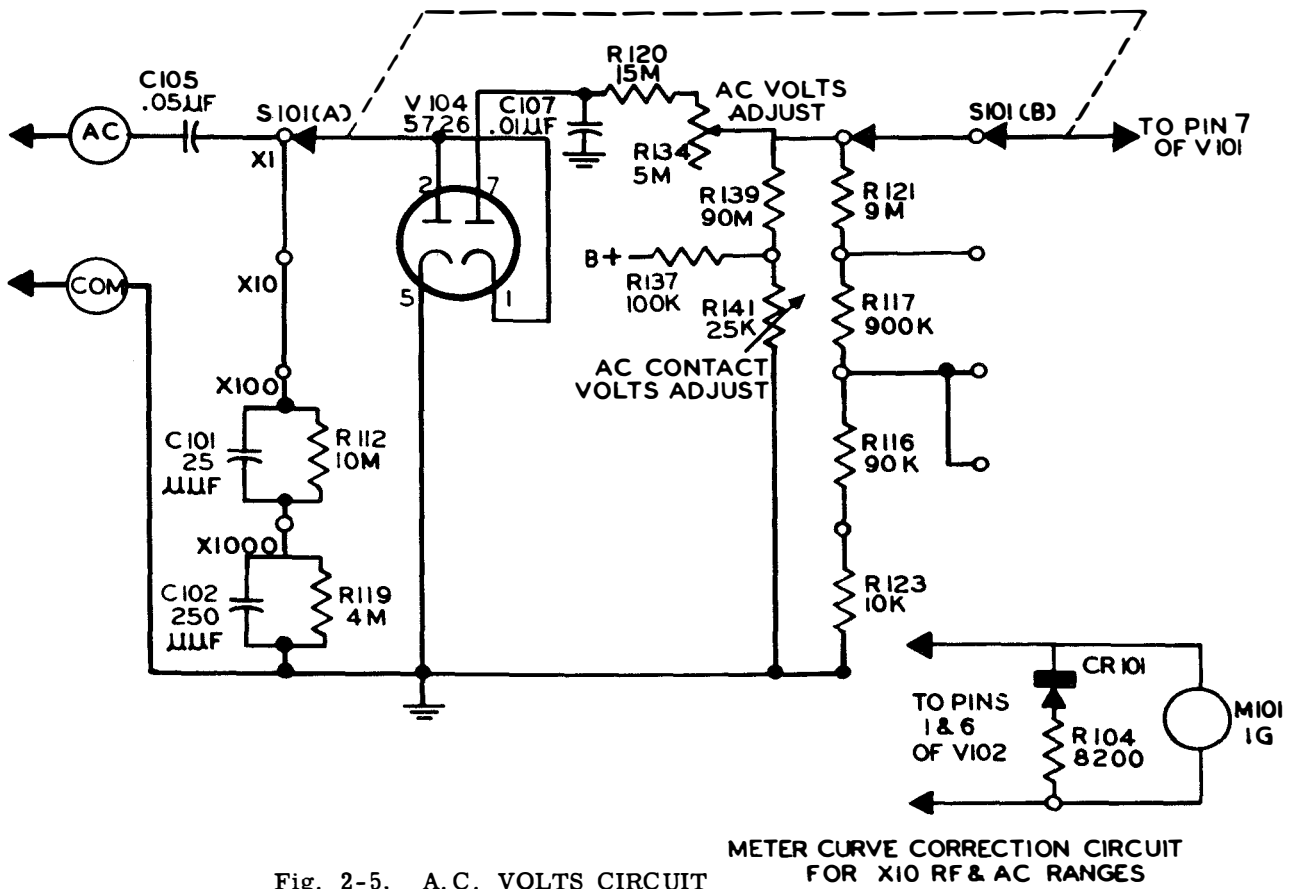

Fig. 2-5. A. C. VOLTS CIRCUIT
d. AC VOLTMETER CIRCUIT. (See Fig. 2-5)
AC voltages up to 1000 volts may be measured with the use of the OHMS-MILS-AC VOLTS probe. The AC probe may be used for AC measurements from 50 CPS to 50 KC. AC Voltage, as illustrated in Figure 2-5, is applied through coupling capacitor, C-105, to a first voltage dividing network S-101 (A) as shown. No voltage division is affected on the X1, X10 and X100 positions, but full voltage is applied to the 5726 tube, V-104, which is connected in a voltage doubler circuit.
developed at pin 7 of V-104. As a result, it becomes unnecessary to readjust the ZERO ADJUST control R-108 when changing ranges. The meter curve correction circuit, illustrated in Figure 2-5, corrects the curve on the X10 range of RF and AC volts.